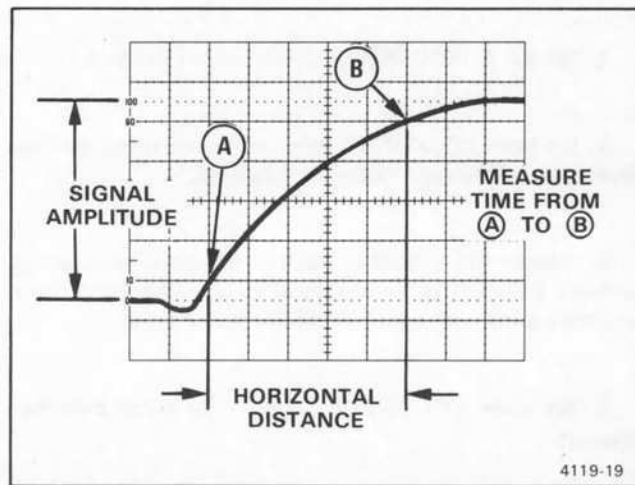

Figure 18. Rise time.
the 10% and 90% points on the leading edge of the waveform (see Figure 18). Fall time is measured between the 90% and 10% points on the trailing edge of the waveform.
of the waveform touches the 100% graticule line (see Figure 18).
7. Horizontally position the display so the 10% point on the waveform intersects the second vertical graticule line (see Figure 18, Point A).
**EXAMPLE:** The horizontal distance between the 10% and 90% points is 5 divisions (see Figure 18), and the A SEC/DIV switch is set to 1  $\mu\text{s}/\text{division}$ . A magnification factor of 1 is used.